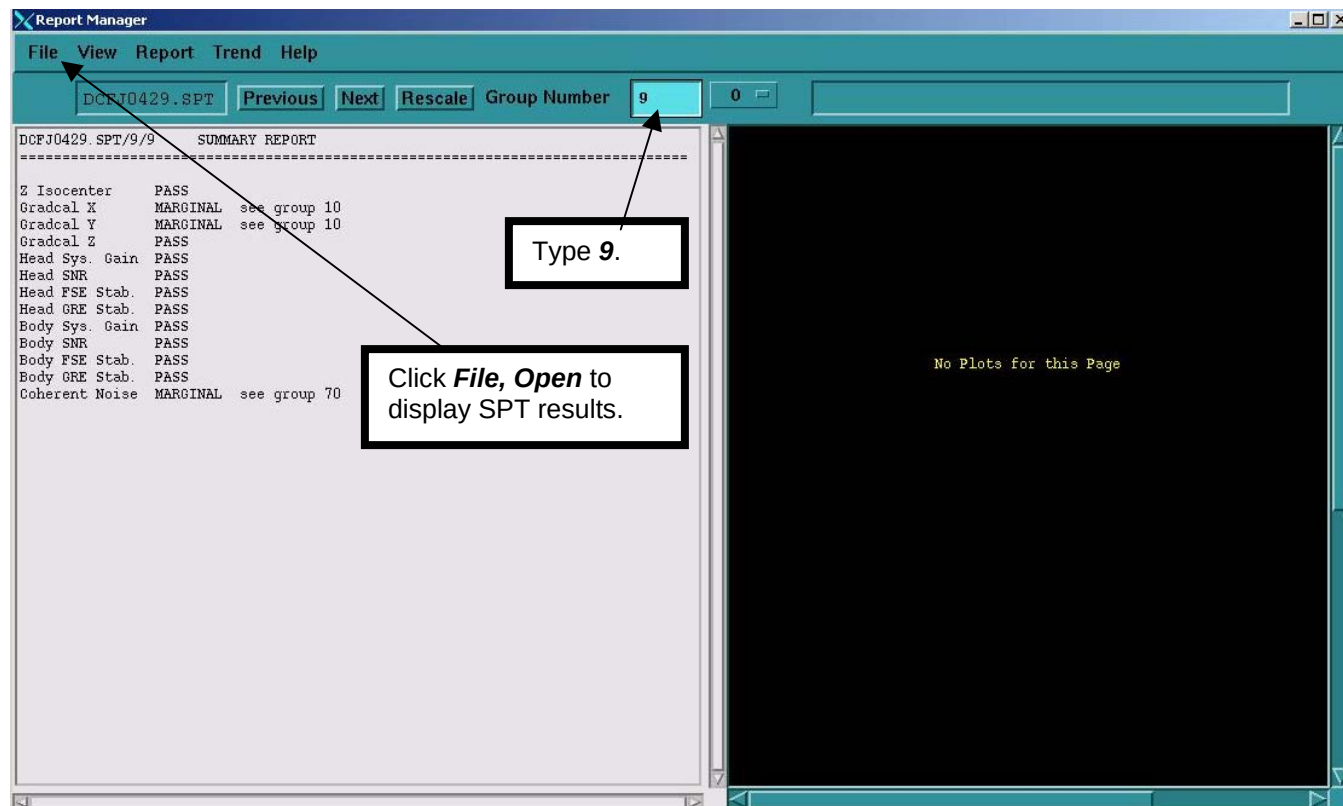

Figure 8
11. Enter "9" in the Group Number field, click the "File" pull-down menu, and select "Open" to display SPT results. See Figure 8.